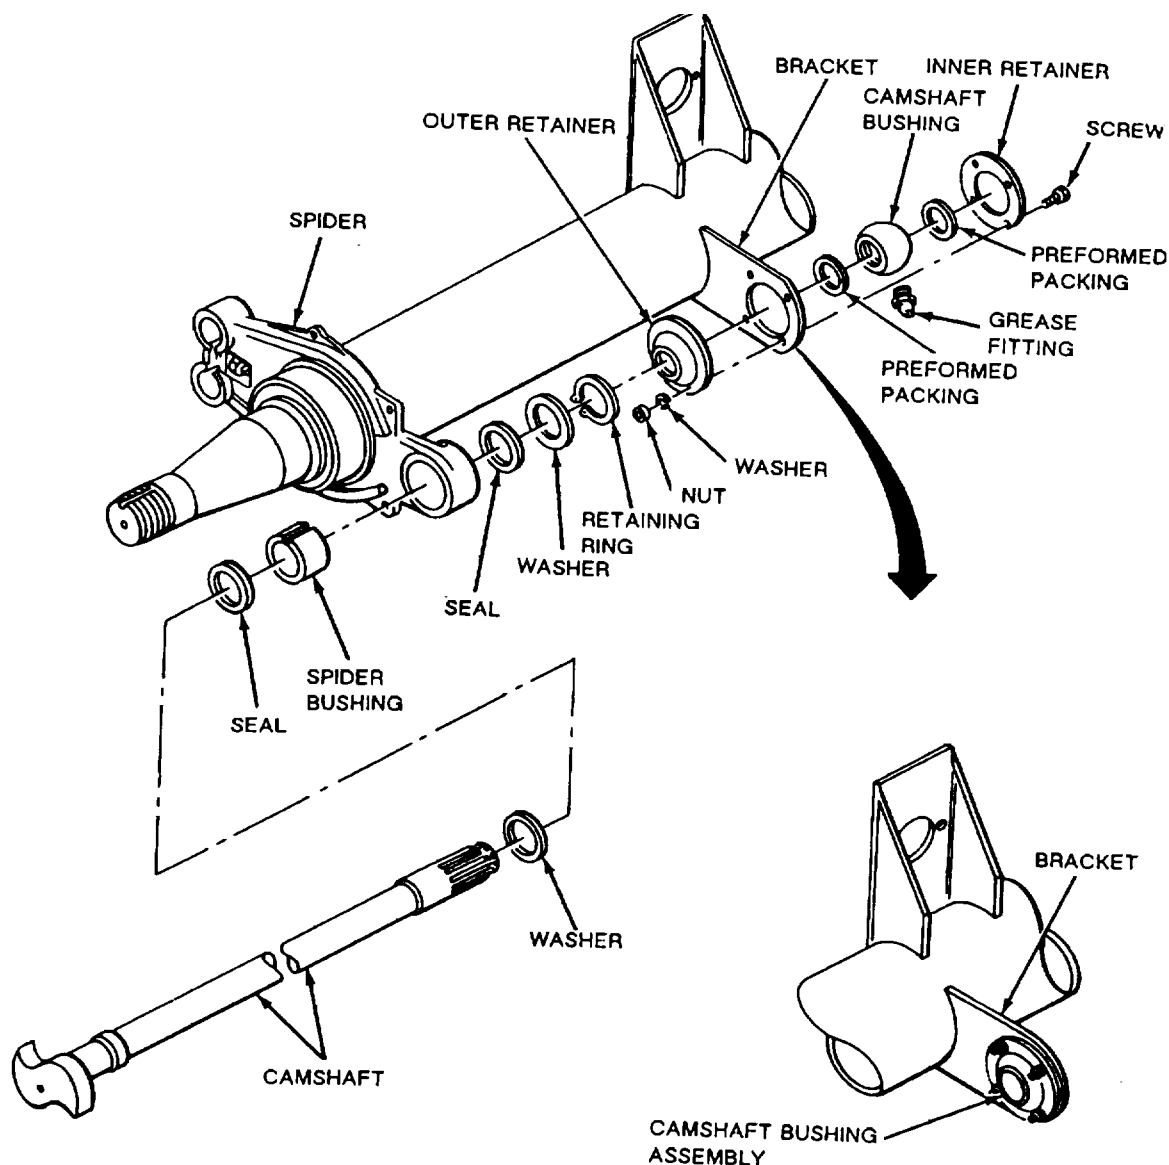
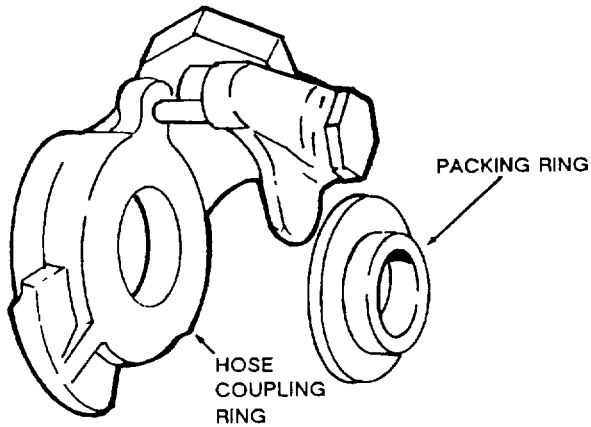

Figure 4-51. Brake Camshaft Removal and Installation
Figure 4-52. Packing Ring Installation.
4-44. Brake Camshaft, Fig. 4-51.*Removal.*
(1) Connect air brake hose couplings from towing vehicle to semitrailer, fig. 4-51. Apply brakes and coat hose couplings, connectors, and fittings of emergency and service lines with soap and water solution. No leakage is permissible.
(2) Check air lines and fittings for restriction caused by dents or kinks.
(3) Coupling damage is usually caused 1 worn, damaged, or improperly installed packing ring Install new packing ring to stop leaks.
b. Packing Ring Replacement, fig. 4-52.
(1) Remove packing ring by prying out of coupling with screwdriver or other suitable tool.
(2) Clean groove in body. Partially collapse packing ring with fingers and put one side of packing ring flange into groove. Use a blunt-ended tool to push ring